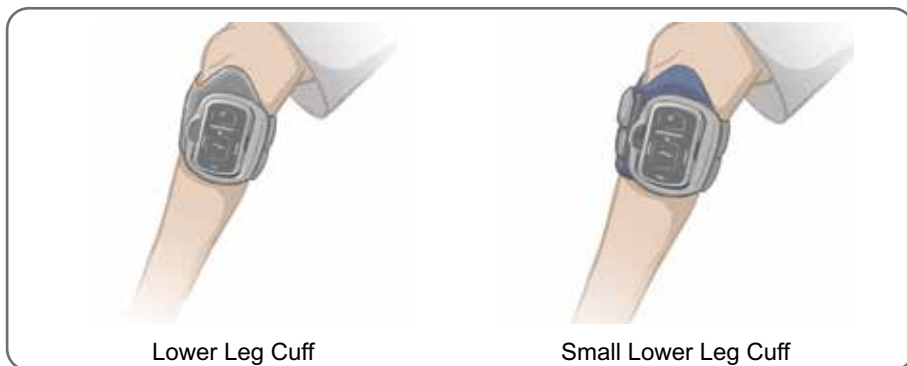

Figure 6-14: Lower Leg Cuff fastened on the leg
5. Make sure the Lower Leg Cuff is correctly positioned. See Figure 6-14. Reposition the Lower Leg Cuff as necessary. Adjust the hook and loop fasteners to ensure a snug fit. See Figure 6-12.